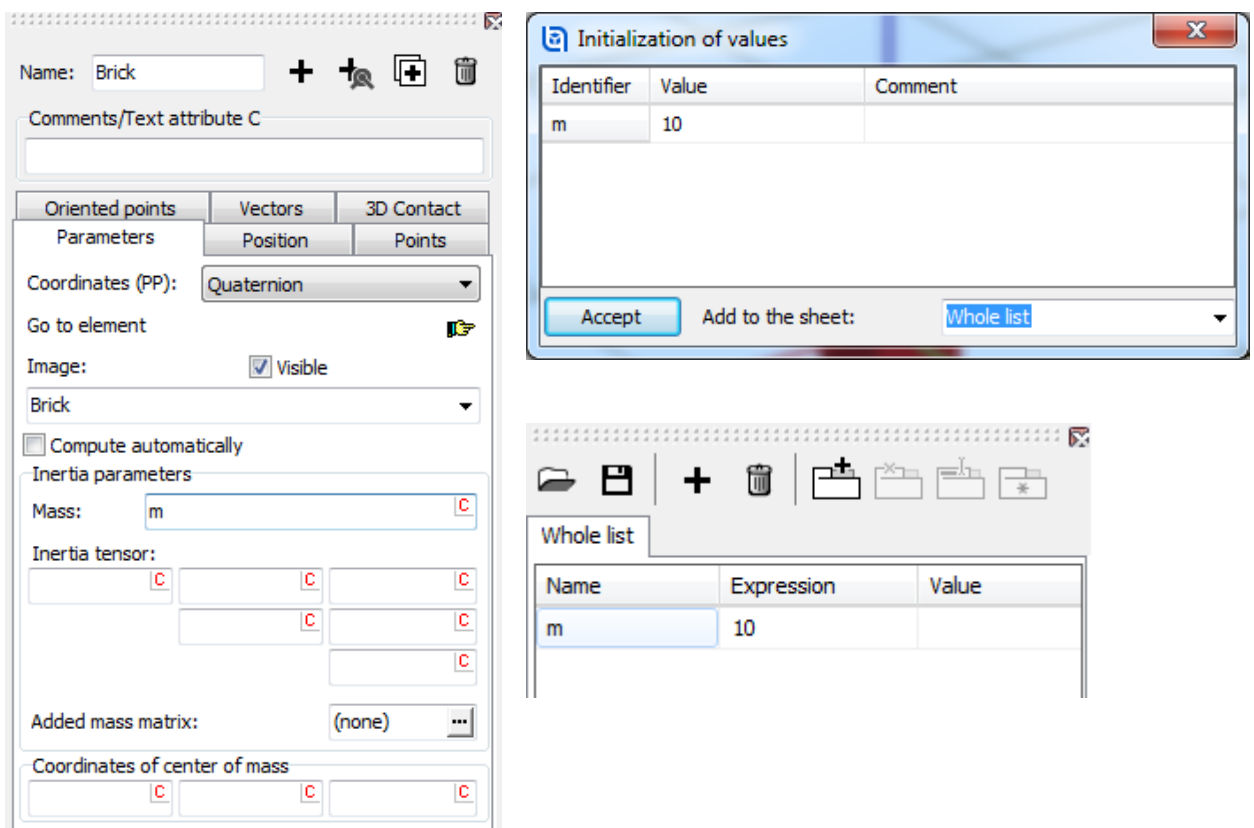

Figure 2.7. Creating the **Brick** rigid body
6. This new parameter appears in the parameter list in the bottom left corner of the constructor window, see in Figure 2.7.